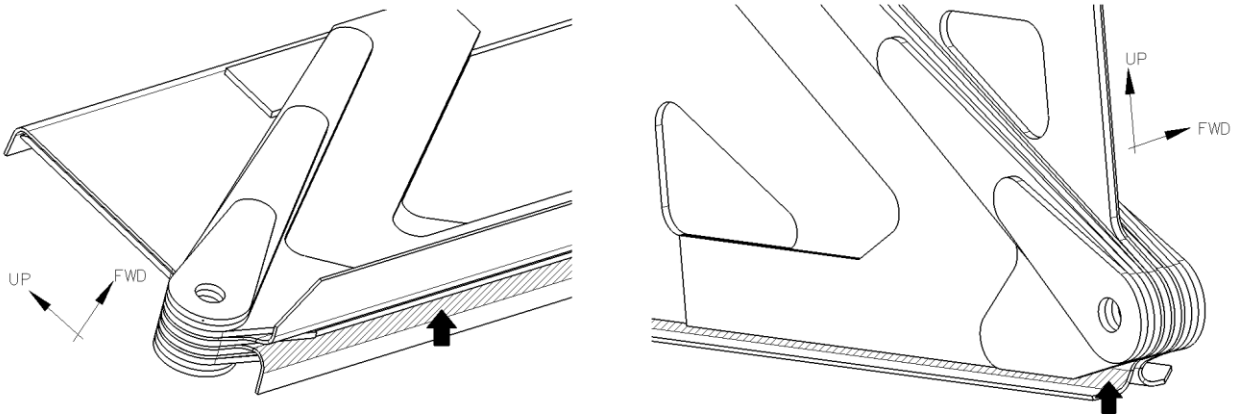

Figure 9 – Concentrated area for inspection; LHS Spar shown
2. Do a detailed visual inspection of the P/N GA200-571002-5, Front Spar Cap using at least 10x magnification and a strong light source. Look for cracks, notches or corrosion. Concentrate inspections at the root fitting end particularly around the relief under the lug area as shown in Figure 9.